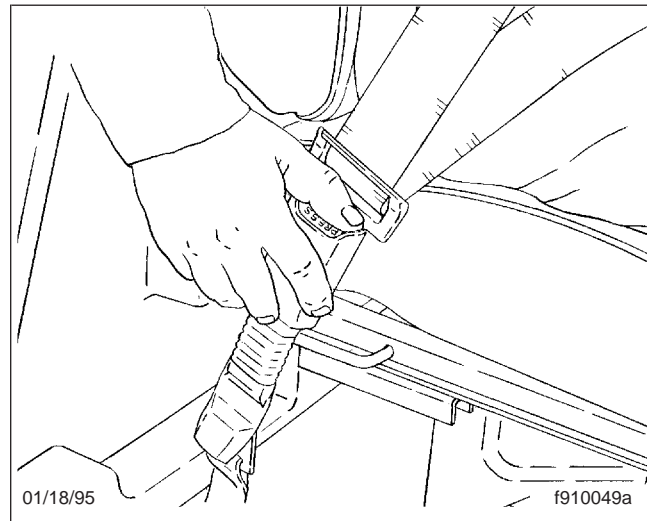

Fig. 5.11, Releasing the Three-Point Seat Belt
4. To unbuckle the three-point seat belt, push the button on the buckle as shown in Fig. 5.11. If the Komfort Latch was used, release it by giving the shoulder belt a quick tug. If you lean forward
6. To unbuckle the three-point seat belt, press the release button on the buckle; see **Fig. 5.11**.